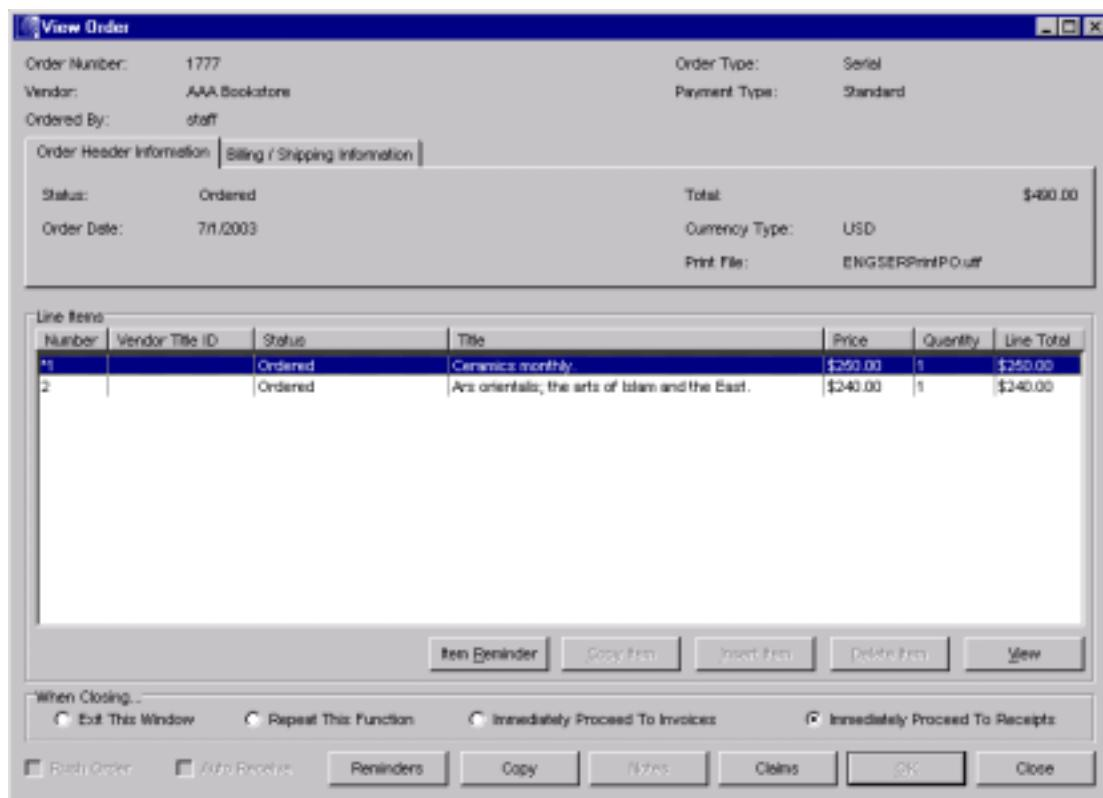

Figure 11-7. View Order Window - Reminders
2. Highlight the line item for which you want to view and/or add a reminder (*Figure 11-7*).